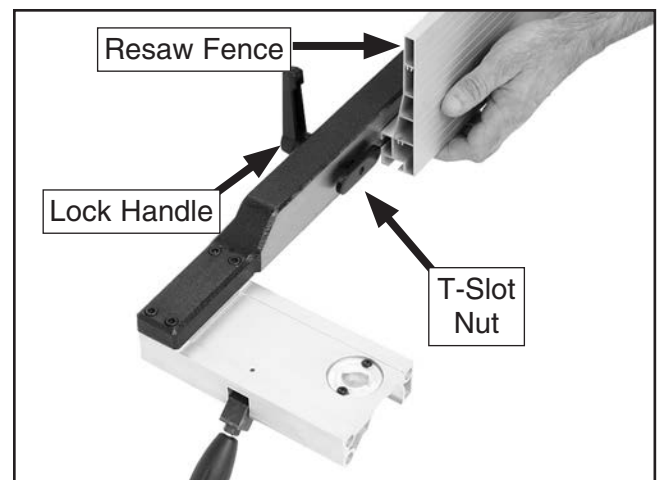

Figure 11. Attaching resaw fence to fence.
16. Place (1) 8mm flat washer on the fence attachment lock handle, slide it through the hole in the fence, then thread the T-slot nut onto the end of the lock handle threads.
17. Slide the resaw fence over the T-slot nut, as shown in **Figure 11**, so the T-slot nut fits inside the channel of the resaw fence, then tighten the lock handle.